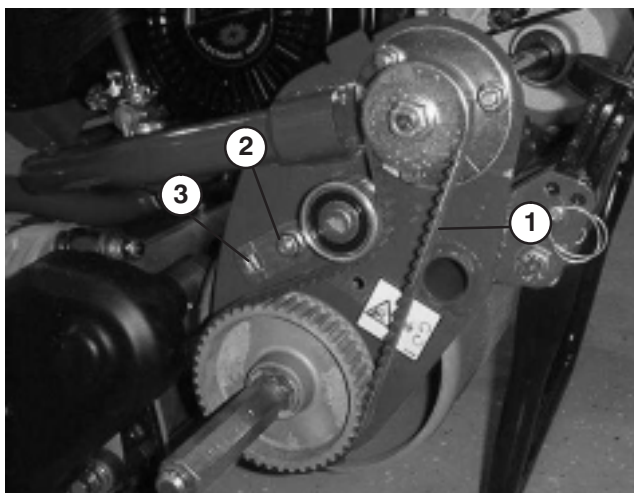

Figure 47
B. Using a 3/8 in. drive torque wrench, rotate the idler bracket with 35–40 in.-lb. of torque to set belt tension (Fig. 47). Tighten the idler bracket mounting capscrew. **Do not over-tension belt.**